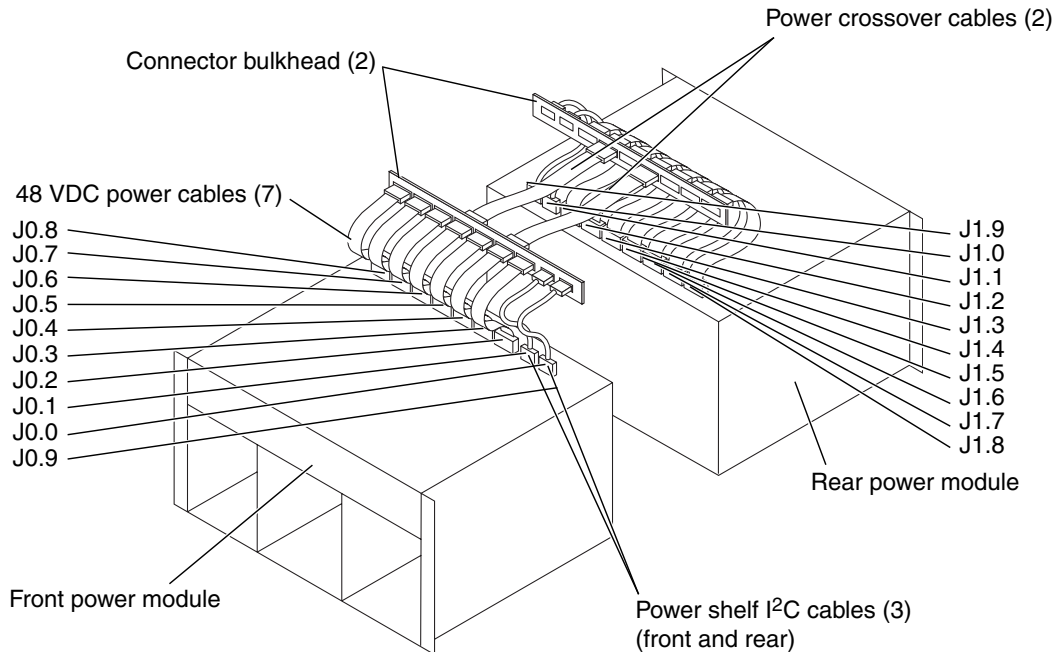

FIGURE 16-10 48 VDC Power Cables
2. Remove the twenty-two (22) M4x30 panhead screws retaining the air plenum cover, and remove both the plenum cover and the honeycomb EMI filter panel.
3. Reach inside the system, below the fan trays, and release the four (4 per cable) male jackscrews holding the 48 VDC cable assemblies to both the top of the power shelf assembly and the cable retaining bracket (FIGURE 16-10).
See FIGURE 16-10.